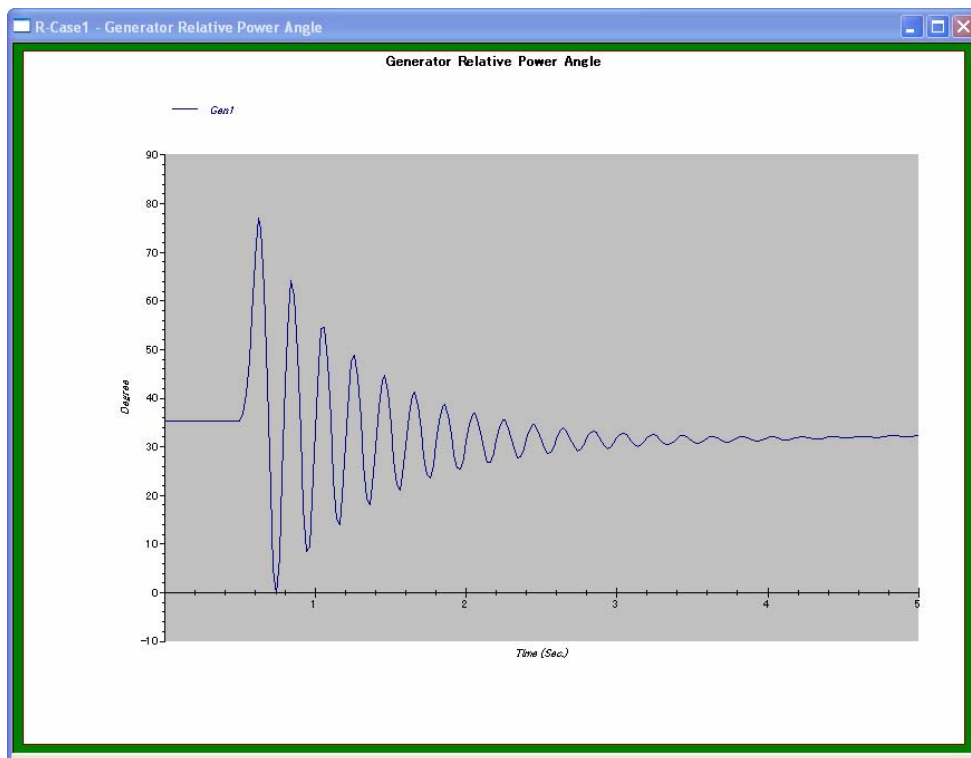

Fig. 15
22. The output plot is displayed in Fig. 15. Looking at the profile, when the fault occurred, the generator power angle swing to 80 deg (approx). After the fault was cleared, it oscillated and was damped gradually approaching closely to its initial position . Based on this behavior, Gen1 stays in synchrony with the utility.